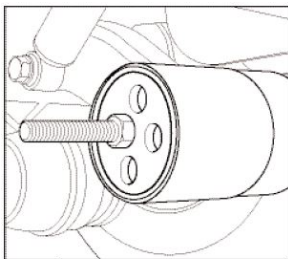

Fig 4.37
3. Fit bush tool to trailing arm as shown (Fig 4.37).